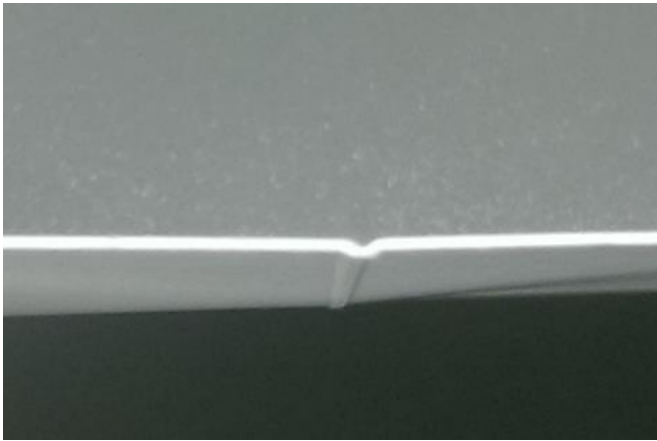

FIGURE 6: Note Orientation of Crease
5.6 For single crease operation *only*: remove paper and fold as shown (Figures 6 and 7).
5.7.3 Remove paper and fold all creases as shown (Figures 6 and 7).